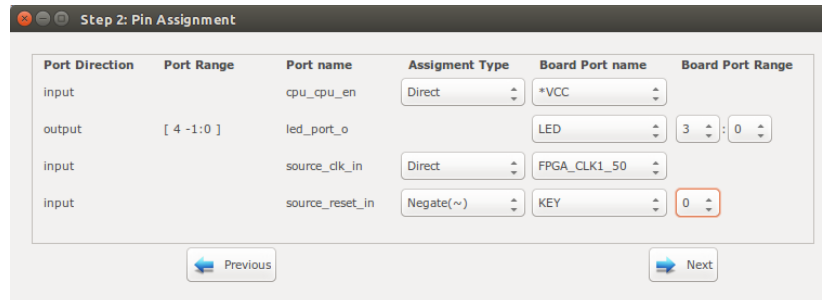

Figure 5.26: SoC pin assignment.
- Assign your SoC pins to your FPGA boards pins as shown in Figure 5.26.